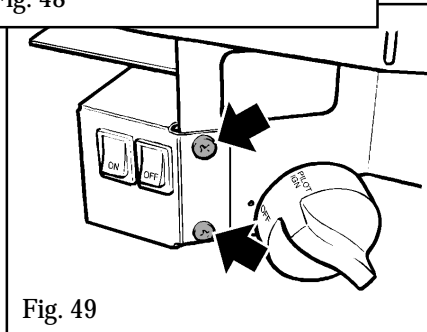

Fig. 49
- To gain access to the pilot pipe connection, detach the fan switch bracket from the burner control bracket by removing two screws (see figure 49).
- Detach the fan switch bracket from the burner control bracket by removing two screws (see figure 49). Carefully pull clear of the burner unit.